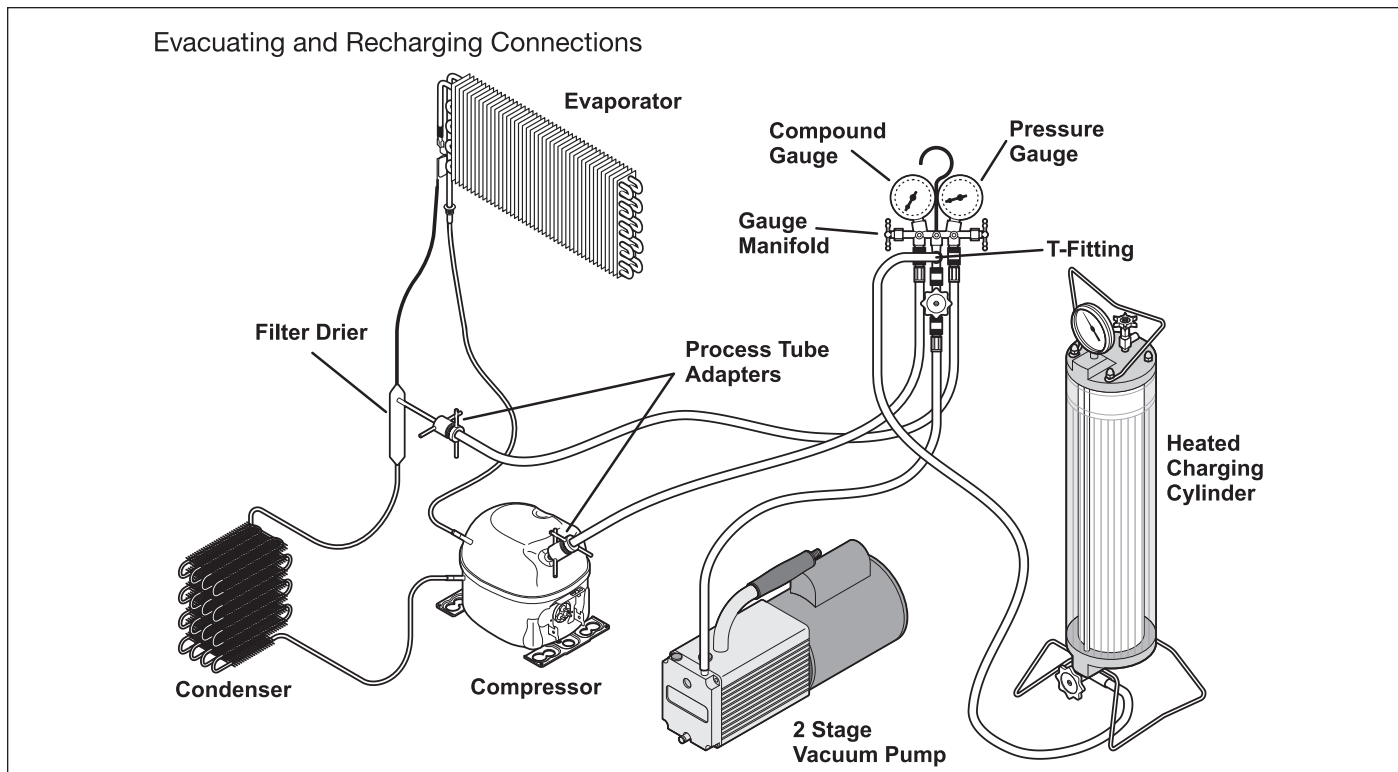

Figure 5-4. Installation of Recovery Equipment
4. Attach refrigeration service gauge manifold to system in following order: (See Figure 5-4)